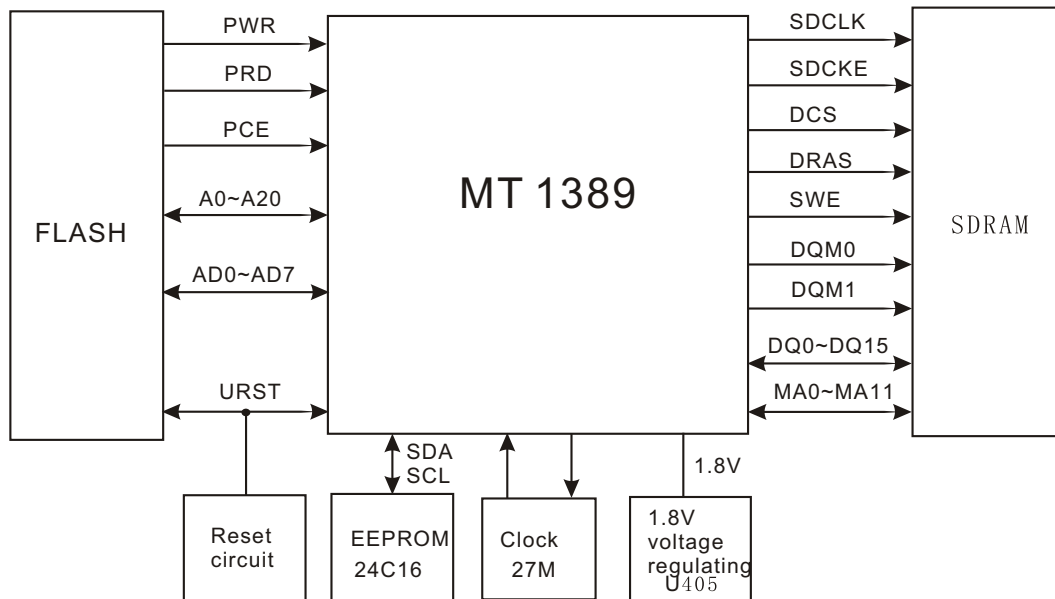

Figure 3.2.11.1 Decode circuit block diagram
1. Decode circuit block diagram is shown as in the following figure 3.2.11.1: